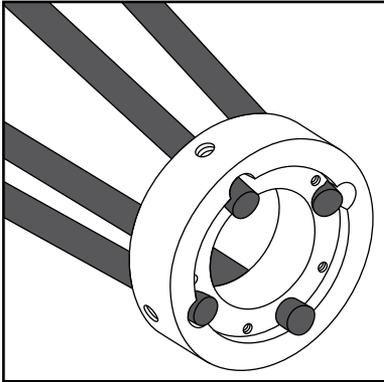

Figure 10
16. Remove the (5) 4-40 socket head screws that secure the wrist unit, and carefully remove the wrist unit from the wrist attachment ring. Slide the PEEK rods through the wrist attachment ring to determine the length and alignment angles. Once length and alignment angles have been determined, mark the distal end of the PEEK rods at the wrist attachment ring and trim off excess PEEK rod (see Figures 10 and 11). Ensure that the rods are fully inserted into the wrist attachment ring, then securely tighten the (4) set screws. Replace the wrist unit and the (5) 4-40 socket head screws and then tighten screws securely.